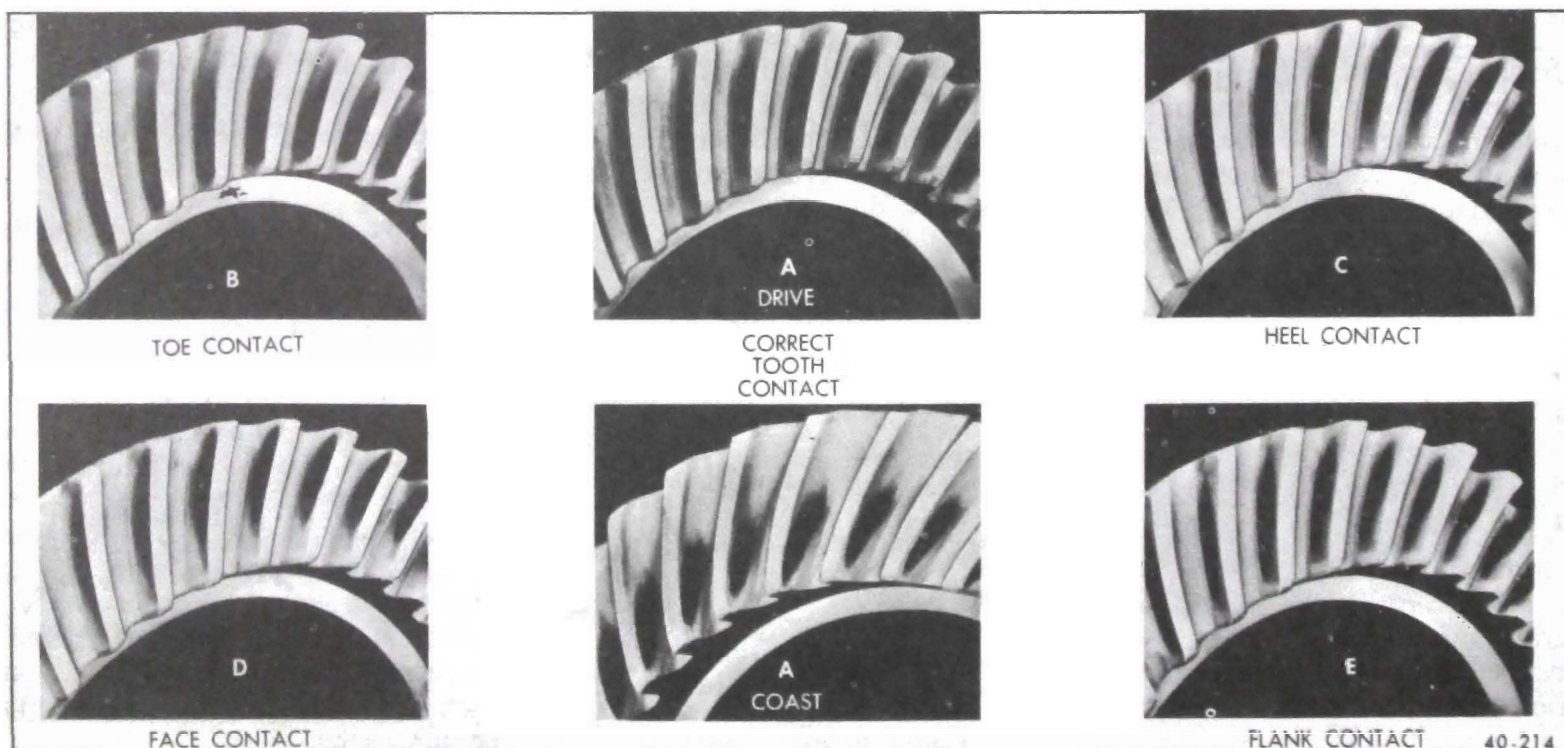

Figure 40-201 - Ring Gear to Pinion Contact Patterns
d. Observe pattern on ring gear teeth and compare with Figure 40-201.